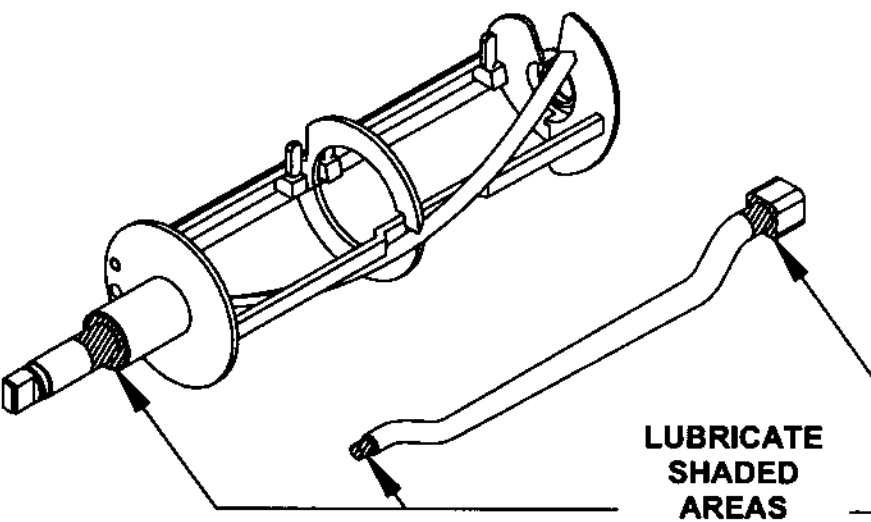

Fig. 23
a. Apply a generous amount of lubricant to the shoulder of the dasher and the area of the shaft where the white plastic portion of the assembled rear seal contacts the shaft (Fig. 23). This is easily performed by running a 1/4 inch bead of lubricant around the shoulder of the dasher.
b. Lubricate the two areas of the stator rod (Fig. 23) and slide the stator rod into the dasher. Ensure that the end of the stator rod is inserted into the hole at the rear of the dasher.